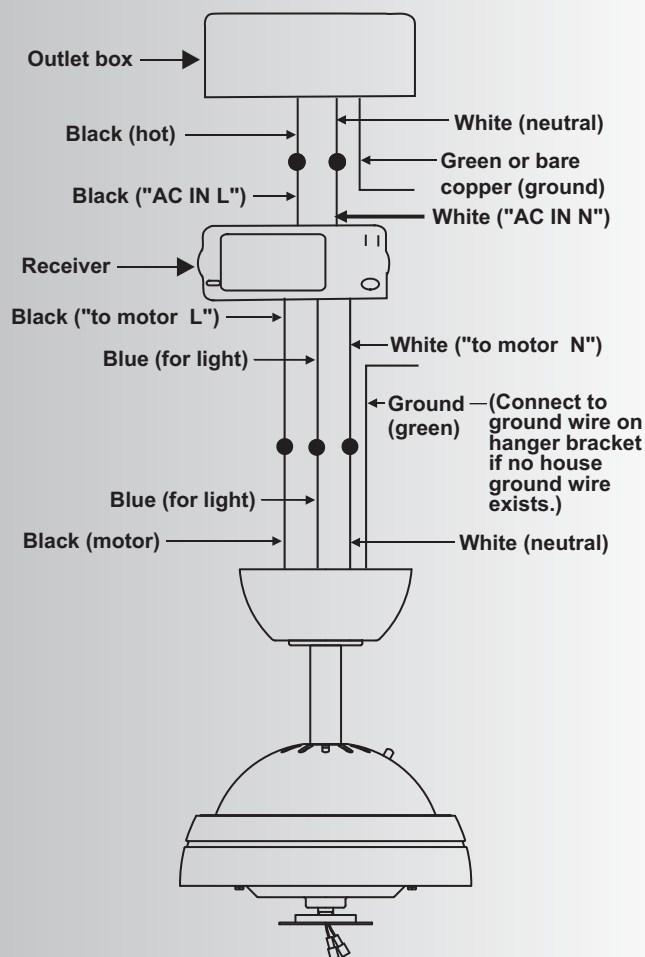

Fig. 15
Step 2. Motor to Receiver Electrical Connections: (Fig. 15) Connect the black wire from the fan to the black wire marked "TO MOTOR L" on the receiver.
Step 3. (Fig. 15) Receiver to House Supply Wires Electrical Connections: Connect the black (hot) wire from the ceiling to the black wire marked "AC in L" from the receiver. Connect the white (neutral) wire from the ceiling to the white wire marked "AC in N" from the Receiver. Secure the wire connections with the plastic wire nuts provided.
Step 4. (Fig. 15) If your outlet box has a ground wire (green or bare copper) connect it to the fan ground wires; otherwise connect the hanging bracket ground wire to the mounting bracket. Secure the wire connection with a plastic nut provided. After connecting the wires, spread them apart so that the green and white wires are on one side of the outlet box and black and blue wires are on the other side. Carefully tuck the wire connections up into the outlet box.